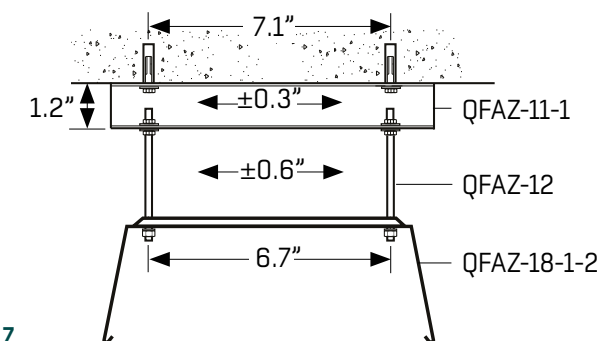

FIGURE 7
- 1) Affix the suspension bracket to the ceiling. Then, thread the suspension rods up through the suspension bracket and down into the fastening bracket and tighten the nuts with a wrench. (See **FIGURE 7**)